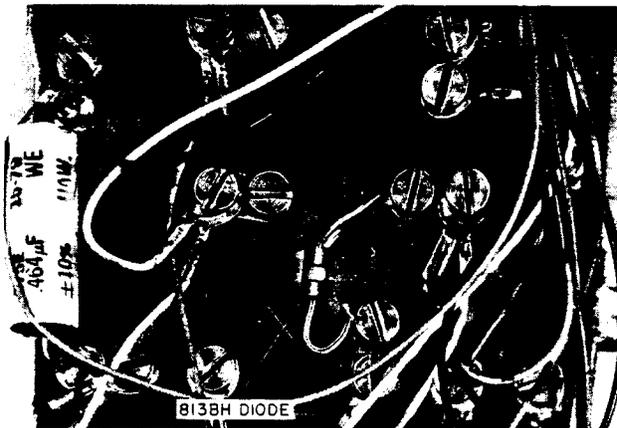

Fig. 7—Typical Installation of 813BH Diode in AC- or AD-Type Telephone Base
- Revise Fig. 7.
C. 426N (MD) or 813BH Diode
2.16 The 426N (MD) or 813BH diode (Fig. 7) is a two lead device which may be used to provide ringing isolation for grounded ringers on 4-party full selective or 8-party semiselective service. Refer to paragraph 1.06.
B. 426N (MD) or 813BH Diodes
3.03 If a D-180697 Kit of Parts is used, connect the diode into the set using sleeving and connectors supplied. Dress the diode to avoid any interference with set components. Figure 7 shows the 813BH diode mounted on a TRIMLINE® base. Figure 8 shows the D-180697 Kit of Parts installed in a PRINCESS® telephone set.